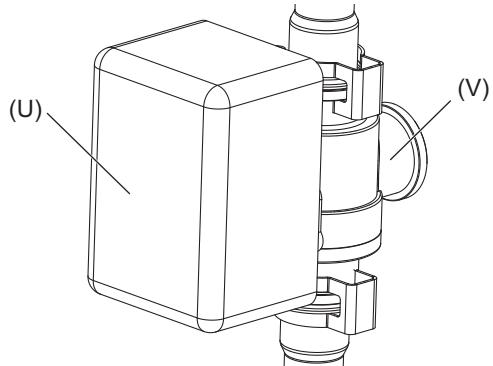

Fig.19
- (1) Remove the cover (U) of the FCV (V). (Fig. 19)